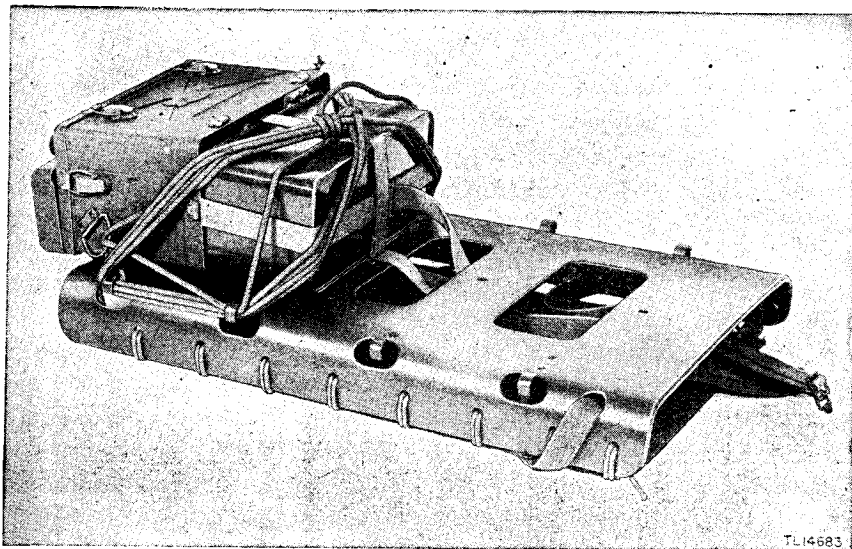

Figure 41. Radio Set SCR-300-A, with Battery BA-80, showing method of fastening to standard QM packboard using rope.
(3) If the cargo attachment and quick release straps are not available, fasten the set to the packboard using rope as shown in figure 41.